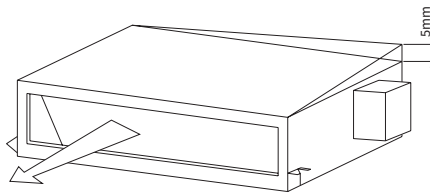

Figure 4.7 Gradient of the Top Surface
(1) Ensure that the top is even and measure the largest top gradient.
(2) As shown in figure 4.7, the back of the indoor unit is slightly lower than its front (0mm-5mm), which facilitates drainage work.
(3) Once the position is adjusted, tighten the hanging nut. Apply the thread locking agent to prevent loosening the hanging nut.